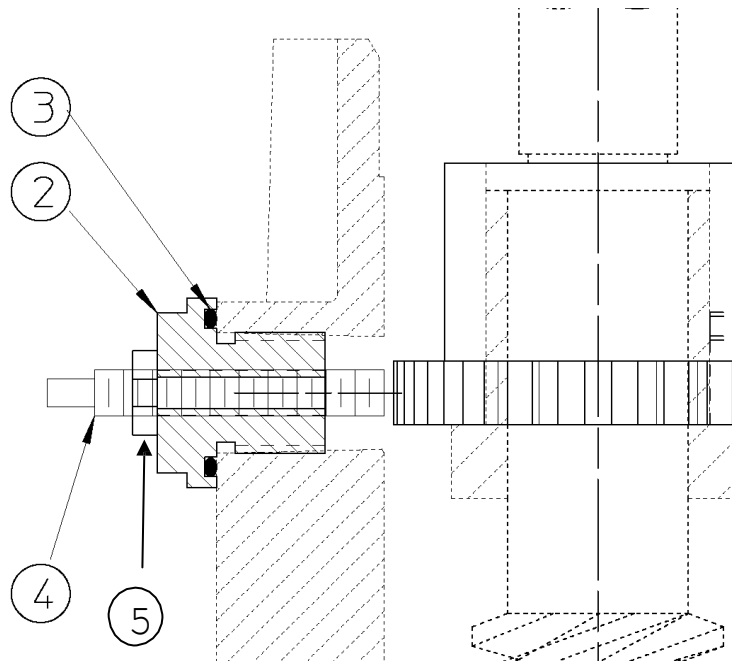

Figure 31 – Tach Sensor
3. Turn the body of the tachometer sensor clockwise until it goes all the way inwards and (gently) bottoms in the fitting, this means it has contacted the gear teeth as illustrated in Figure 31.